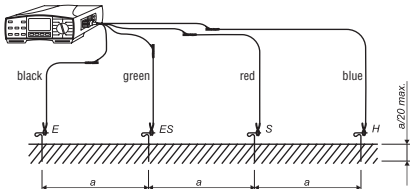

Figure 42: Test Lead Connection
- Place the four earth rods for E, ES, S, H in one line, if possible, in accordance with Figure 42. The distance between each probes must match the previously selected distance. Carefully place the test leads making sure that the test leads are not parallel to each other and do not cross to avoid coupling.
- Connect test leads to earth rods according to Figure 42. If desired, this connection information can be retrieved on the measurement instrument using the key 'HELP'. Repeated pressing of the key 'HELP' indicates the various options for connection.